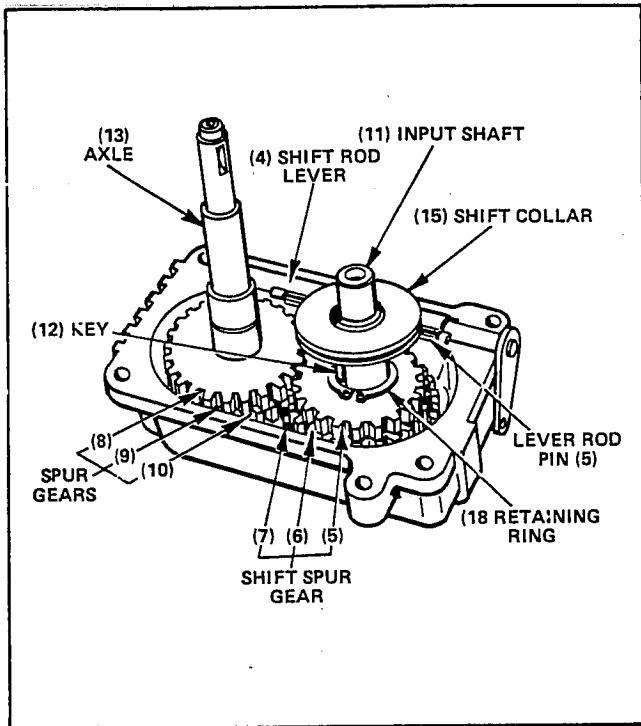

FIGURE 2-35. COVER REMOVED
4. Remove shift rod lever from its location in the case by lifting the lever up and away from the case by clearing the pins on the rod (Fig. 2-35) from the shift collar.